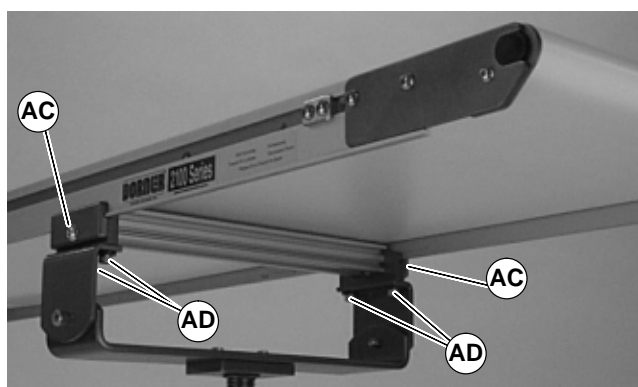

Figure 11
3. Attach clamp plates on each side of conveyor (Figure 11). Tighten the screws (AC) to 9 Nm.